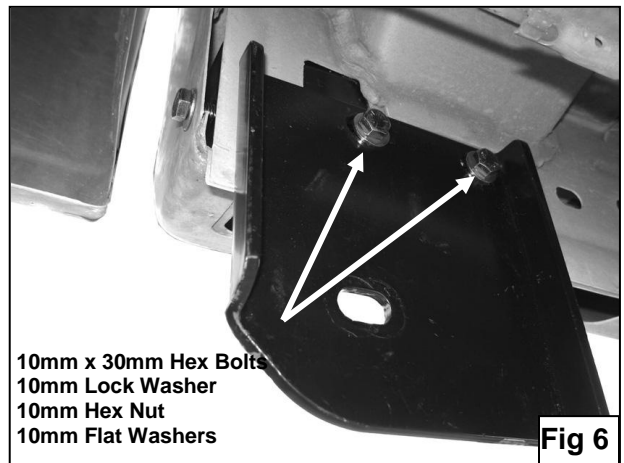
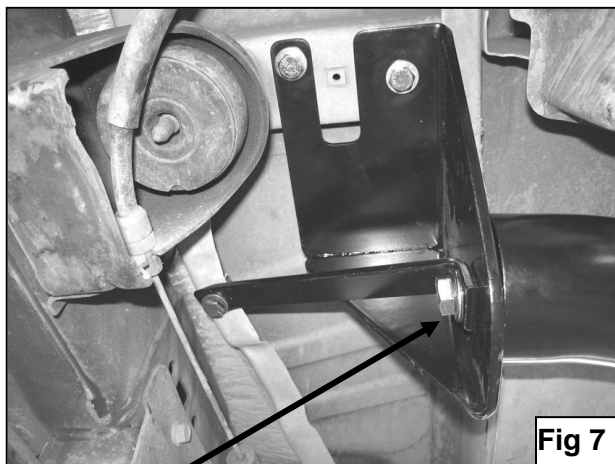

**Fig 4**
**Fig 5**
5. With the 90° bend towards the rear of the vehicle and facing the side of the vehicle, insert the driver side rear Support Bracket through rectangular hole located in the bottom of the body **(Figure 4)**. Line up the hole in the 90° bend with factory hole located between the cab and the bed of the vehicle and secure it using the included (1) 10mm x 30mm Hex Head Bolt, (1) 10mm Lock Washer, (1) 10mm Hex Nut, and (2) 10mm Flat Washers. Tighten at this time **(Figure 5)**. **NOTE:** Before tightening make sure that the two holes on the longer side of the Support Bracket lines up with the two factory holes located in the side panel.